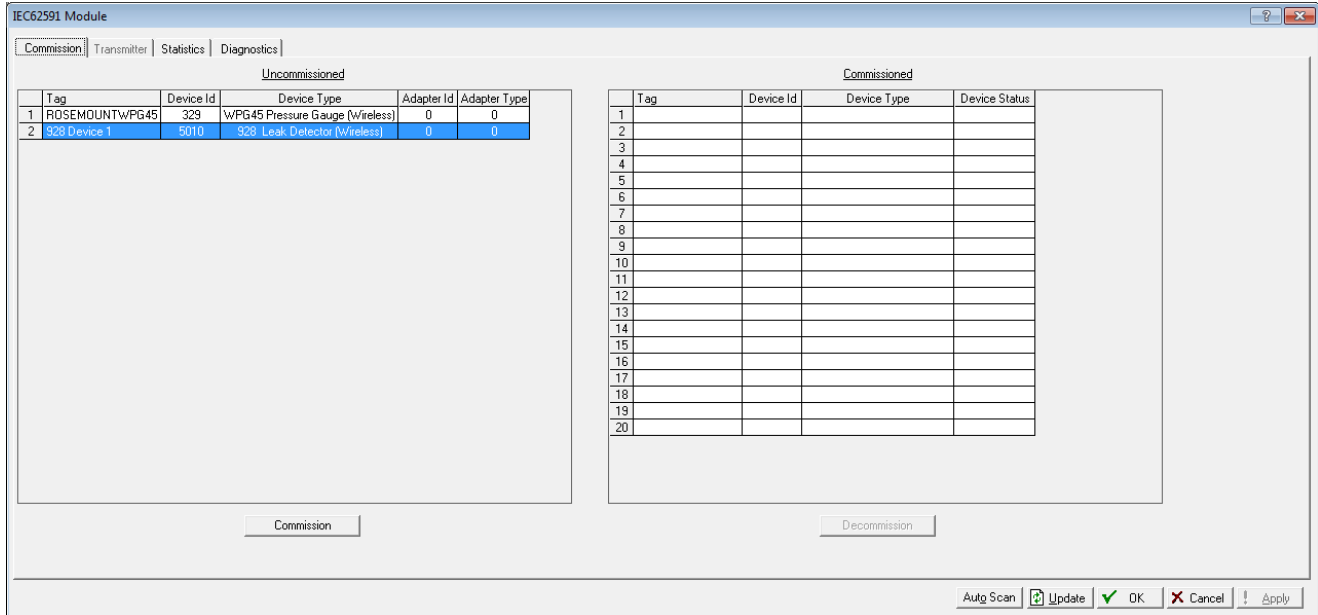

Figure 3-5. Commission tab
- Select the device (see Figure 3-5) and click **Commission**. ROCLINK 800 places the device in the **first available** empty row on the Commissioned list.